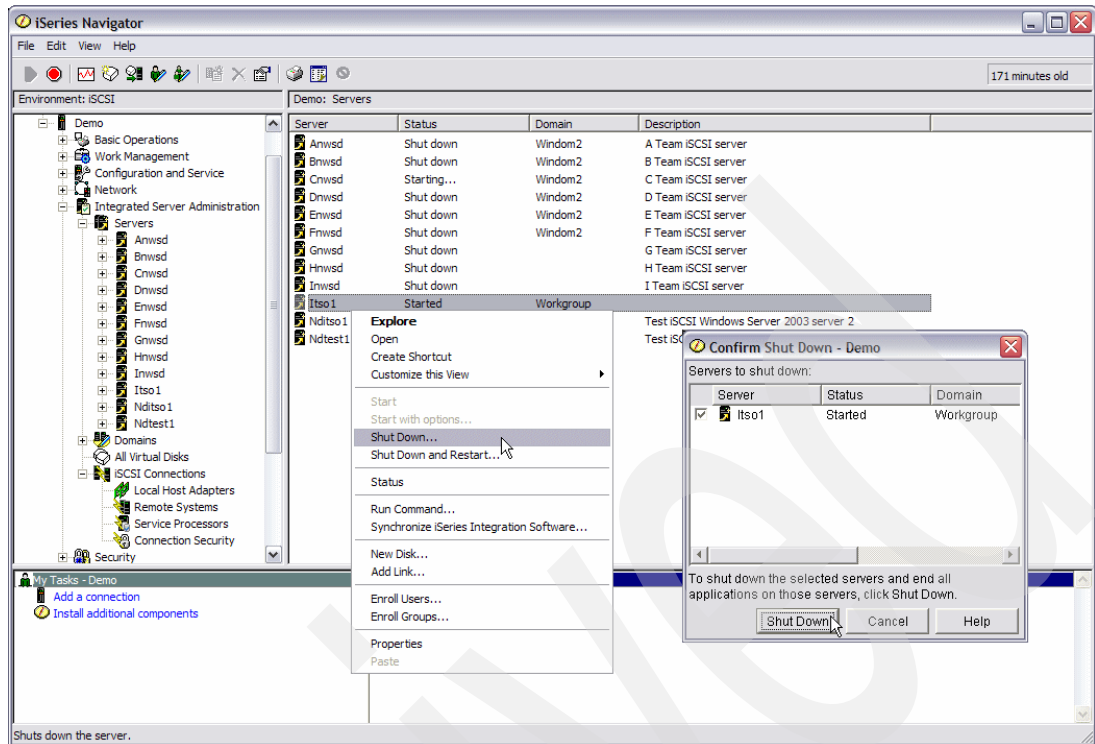

Figure 6-84 Shut down one integrated server
3. A Confirm Shut Down window opens (Figure 6-84 on page 234), you must click **Shutdown** to shut down the server.